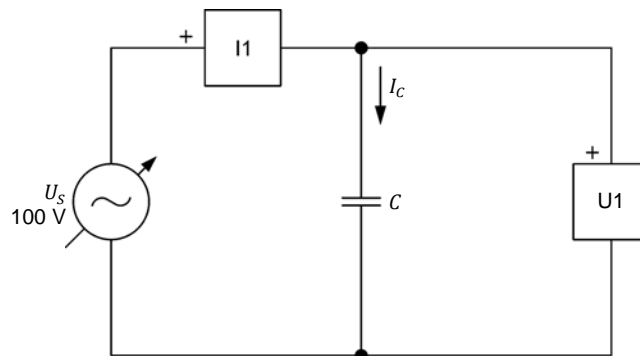

Figure 2-6. AC circuit containing a capacitor.
4. Set up the circuit shown in Figure 2-6.
The value of the capacitance C to be used in the circuit of Figure 2-6 is indicated by Table 2-3.